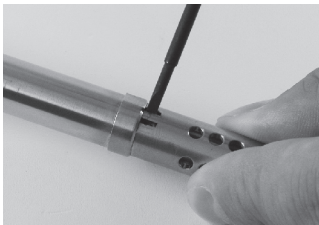

Fig. 29 Loosen the lock of the filter cap
2. Loosen the lock of the filter cap with an appropriate tool (see Fig. 29 Loosen the lock of the filter cap).